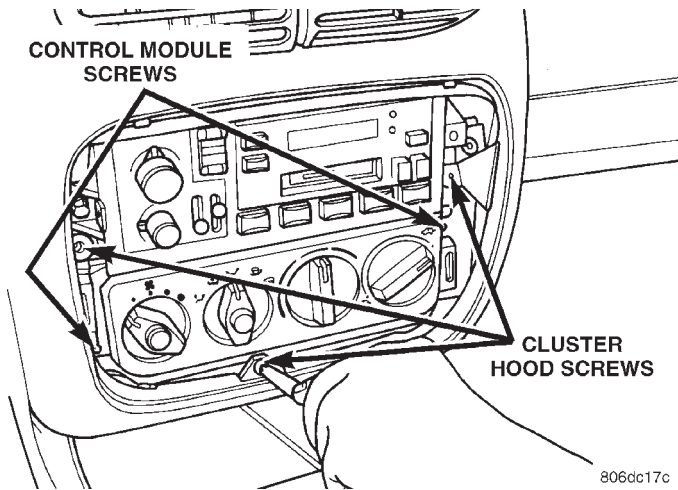
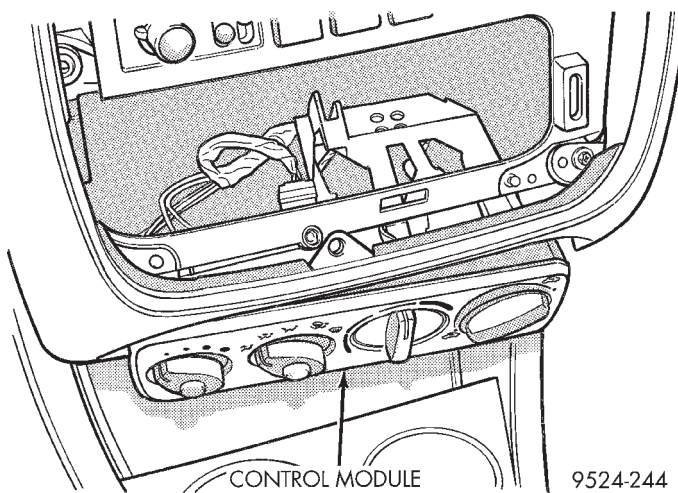
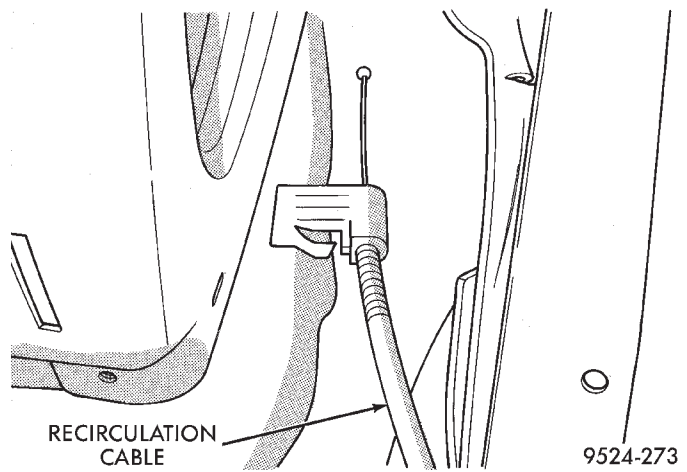
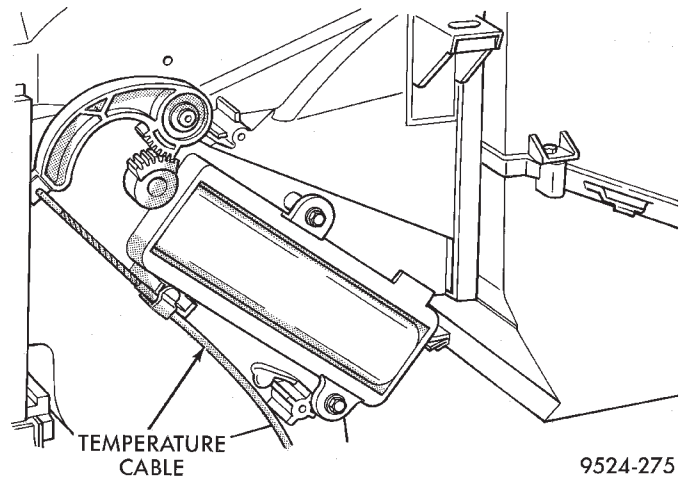

Fig. 67 Control Module Screws
Fig. 68 Control Module At Bezel Opening
Fig. 69 Disconnect Recirculation Cable
Fig. 73 Temperature Cable At A/C Housing
- (3) Remove cluster hood bezel retaining screws in the trim bezel opening (Fig. 67).
- (4) Pry up the cluster hood bezel a few inches to expose the cubby bin/cigar lighter bezel screws.
- (5) Remove the cubby bin/cigar lighter bezel and wiring.
- (6) Remove the control module retaining screws.
- (7) Drop the A/C control module into the cigar lighter/cubby bin bezel opening (Fig. 68). Then disconnect the wiring on the rear of the control module.
- (8) Release the recirculation cable retaining clip from the top of the control module. Retain the clip for future use. Then disconnect the recirculation control cable.
- (9) Remove right under panel silencer/duct.
- (10) Disconnect cable flag at right of recirculation housing (Fig. 69).
- (11) Remove cable core end from recirculation actuator lever.
- (7) Remove control module and disconnect the wire connectors.
(8) Release the temperature control cable retaining clip from the top of the control module. Retain the clip for future use. Then disconnect the temperature control cable.
(9) Disconnect cable at A/C housing (Fig. 73).
(10) Remove cable core end from temperature actuator lever.
- (8) Remove cluster hood bezel retaining screws in the trim bezel opening (Fig. 67).
- (9) Pry up the cluster hood bezel a few inches to expose the cubby bin/cigar lighter bezel screws.
- (10) Remove the cubby bin/cigar lighter bezel and wiring.
- (11) Remove the control module retaining screws.
(12) Drop the A/C control module into the cigar lighter/cubby bin bezel opening (Fig. 68). Then disconnect the wiring on the rear of the control module.
(13) Release the cable clips from the top of the control module. Retain the clips for future use. Then disconnect the temperature control and recirculation control cables.
- (14) Remove the control module.
- (15) Remove upper instrument panel bezel.
- (16) Remove right and left instrument panel end caps.
- (17) Remove left lower knee bolster. Disconnect mode door motor wiring.
- (18) Remove right and left interior door post kick panel.
- (19) Remove front and rear halves of floor console.
- (20) Remove the radio.
- (21) Remove right side lower silencer/duct.
- (22) Remove glove box assembly.